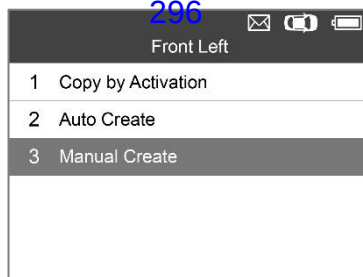
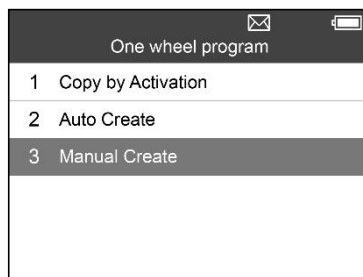

Figure 5.22
Figure 5.23
- 2) Use the **UP/DOWN** scroll button to select **Manual Create** and press the **Y** button (Figure 5.22 for All Wheel Mode, Figure 5.23 for One Wheel Mode).